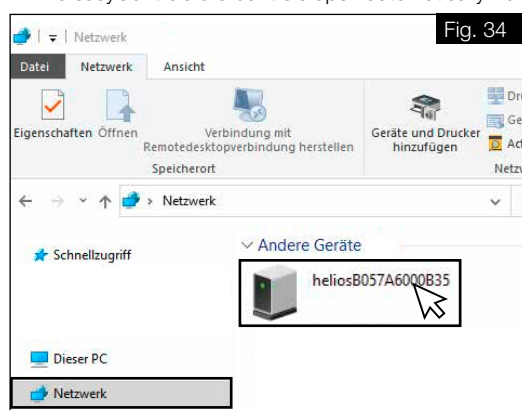

Fig. 34
2. Open desktop and click on Network, cf. Fig. 34.
① **Network discovery must be activated!**
3. Double-click on the corresponding unit, cf. Fig. 34.